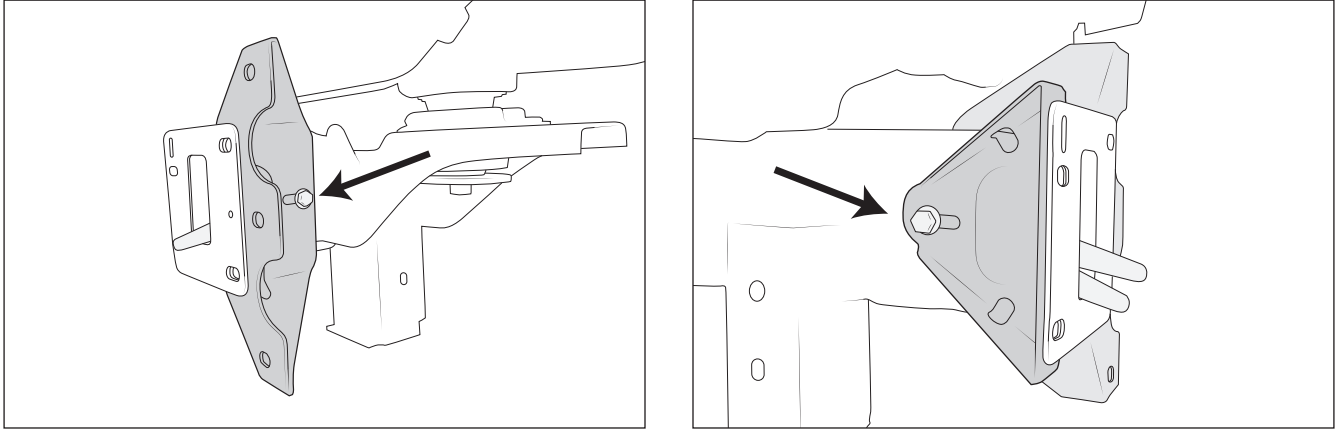

Figure 11 Left: Outside Bracket Right: Inside Bracket
1. Place inside and outside frame gusset brackets in place on frame rails as shown. Bolt brackets in place using black M12 x 35mm bolts and washers with silver M12 flange nuts on back side. Factory frame slots are slightly undersized in top inside locations so some effort will be required to thread bolts in. At rear ends of slots in frame brackets drill $3/8$ " holes in all 4 locations on frame rails (fig 11).
2. Install $3/8$ " bolts and washers through all 4 frame brackets, through holes in frame, and attach to flag nuts inserted through openings in front frame plates. Remove M12 hardware so bumper can be installed (fig. 11).